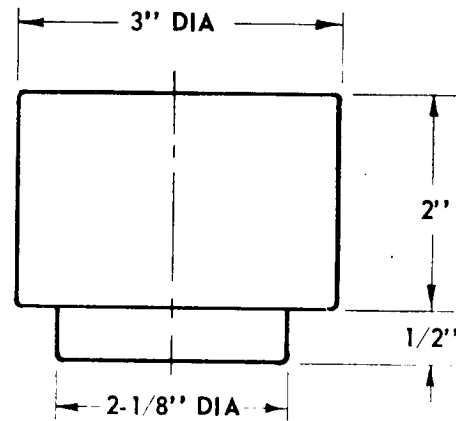

FIG. 75
9. Coat outside diameter of oil seal lightly with Permatex No. 2 or equivalent. Install seal in pinion bearing retaining flanged adapter. Seal driver dimensions are given in Fig. 75. Wipe off excess Permatex. Lubricate lips of seal with Lubriplate.